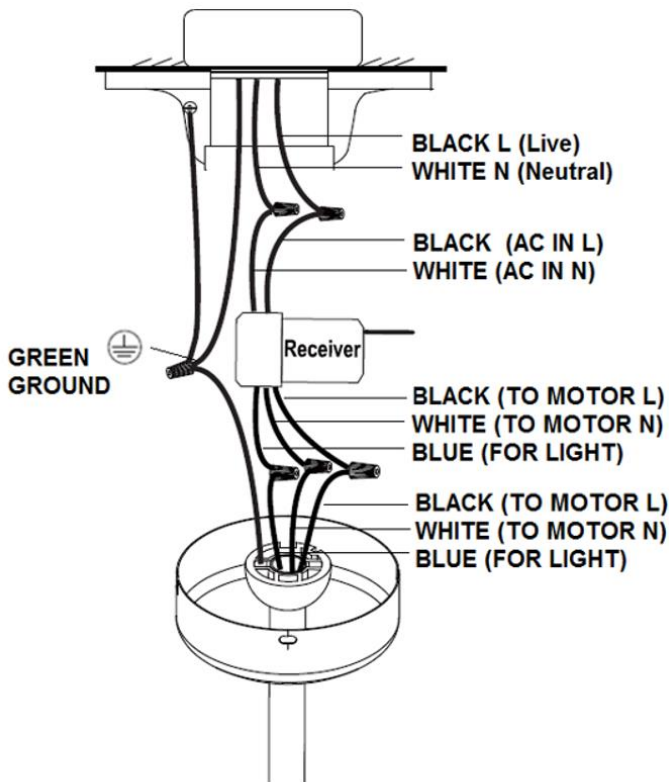

Fig. 9
1. Connect the household live supply wire (black) to receiver input wire (black, AC IN L) as shown in **Fig. 9**.